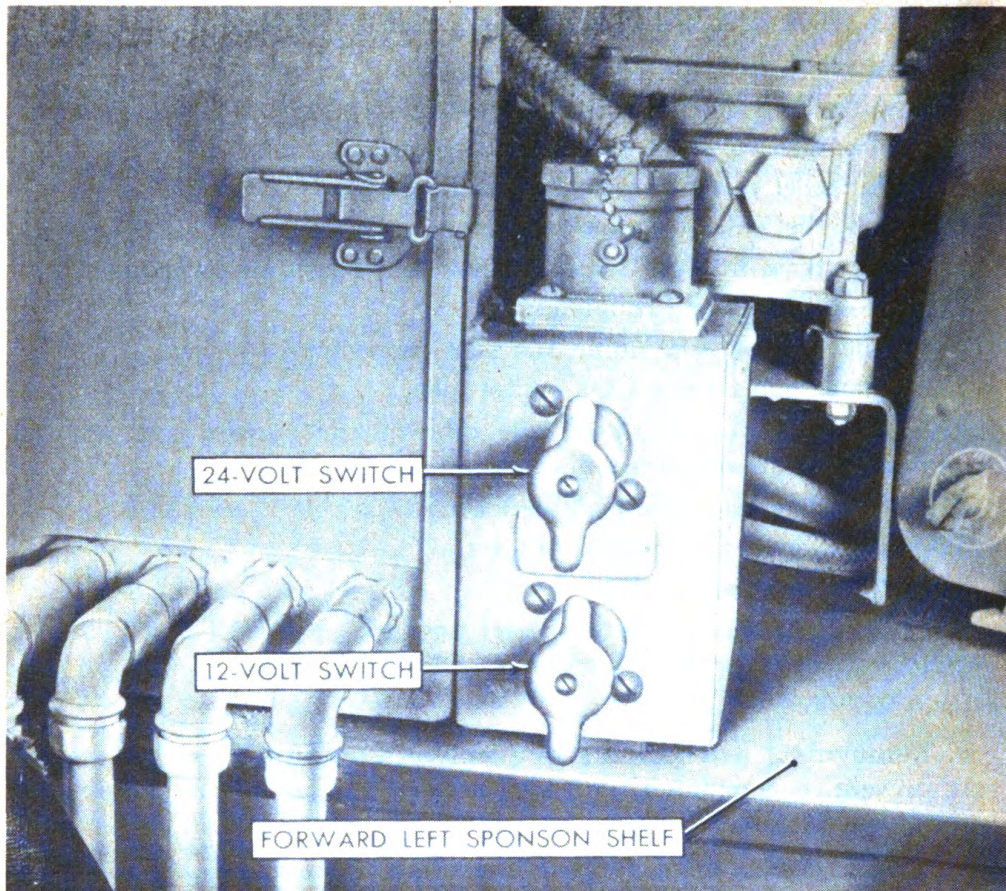

Figure 4—Master power switches.
a. Master power switches (fig. 4). The master power switches are mounted on the sponson shelf to the left of the driver. The upper switch supplies 24-volt and the lower switch supplies 12-volt DC electrical power to all circuits in the hull and turret including the flame thrower ignition and firing systems. To turn on switches, pull out knobs and turn clockwise one-eighth turn.